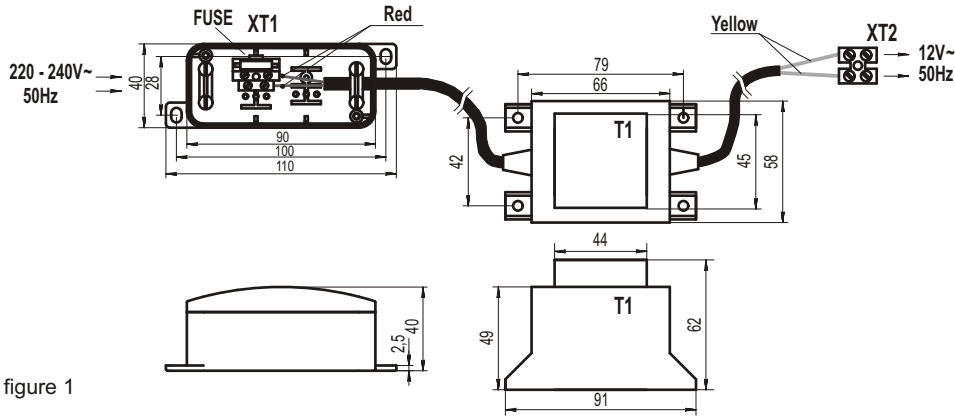

figure 1
Appearance with the overall and connection dimensions (specified in millimeters) is shown on fig. 1.
- Take out the safety fuse holder from the terminal block XT1 (see fig. 1), replace the safety fuse with the spare one,